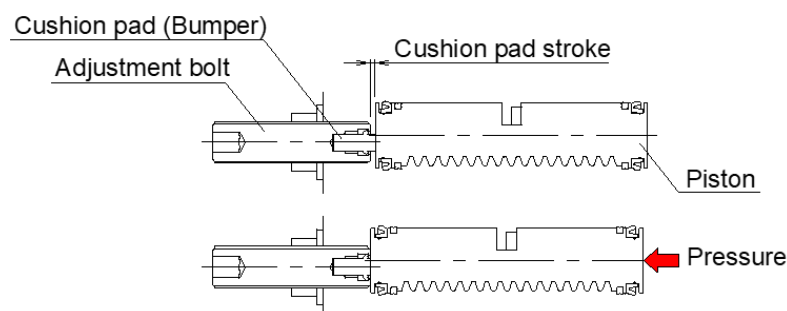

Fig. 4
- Refer to the setting example of the rotation angle range. (Fig.4)
- Since the end of adjustment bolt of Series MSQ has a built-in cushion pad (or a bumper), when angle adjustment is made, push the piston completely while pressurizing (minimum operating pressure for cushion pad : 0.1MPa or more, minimum operating pressure for bumper : 0.3MPa or more) as shown in Figure 4. Please refer to page 49 for details.